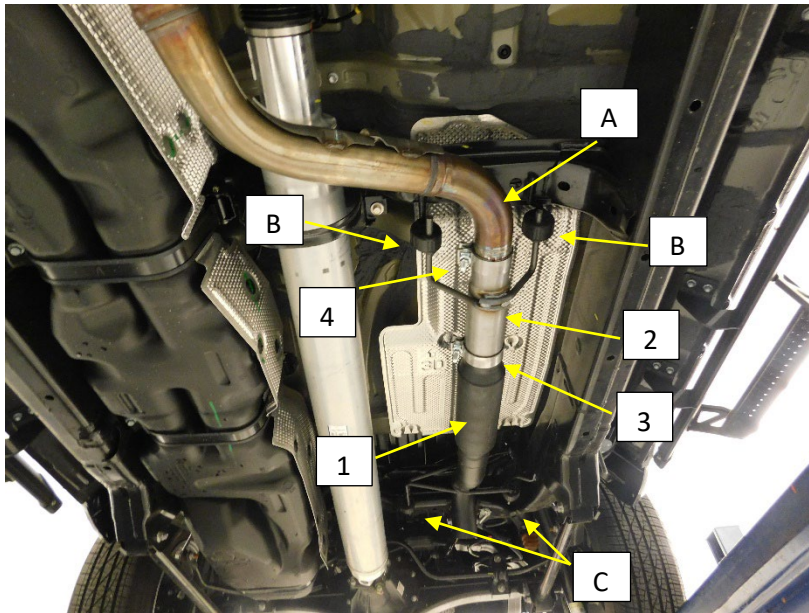

Figure.2
1. Install the 2.5" Band clamp (4) onto the reduced end of the Muffler Inlet pipe (2). **Fig.2**
2. Install the reduced end of the Flowmaster Muffler Inlet pipe (2) on to the OEM Muffler inlet pipe (A) and install the rubber Isolators (B). Support the Muffler inlet pipe.
3. Install the 3.0" band clamp (3) on to the Muffler assembly (1) inlet. **Fig.2**
4. Install the Flowmaster muffler assembly (1) onto the Muffler inlet pipe (2) and tighten the 3" clamp to allow for adjustment. **Fig.2**
5. Install the rubber isolators (C) at the rear of the muffler assembly. **Fig.2**